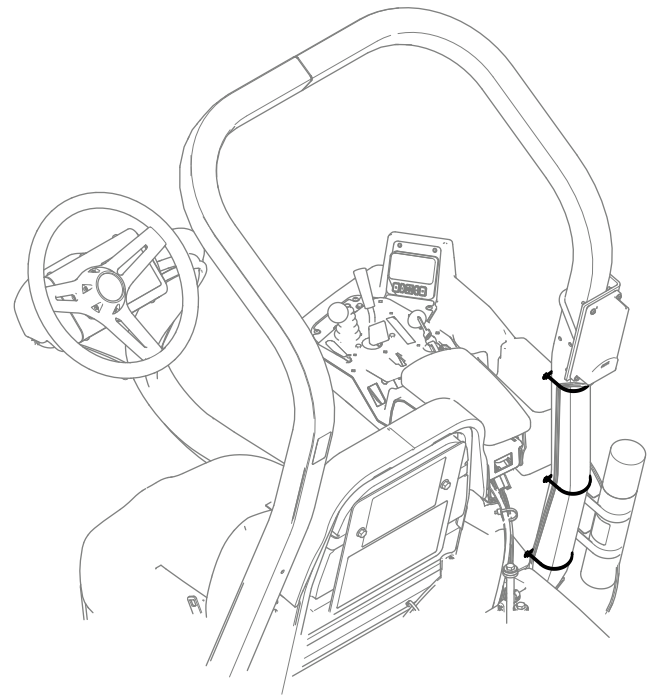

**Figure 10**
5. Route the wire harness down the roll bar and connect the wire-harness connector labeled P01 to the connector on the machine wire harness labeled P49 (Figure 10).
6. Secure the telematics harness to the main harness with a cable tie (Figure 10).